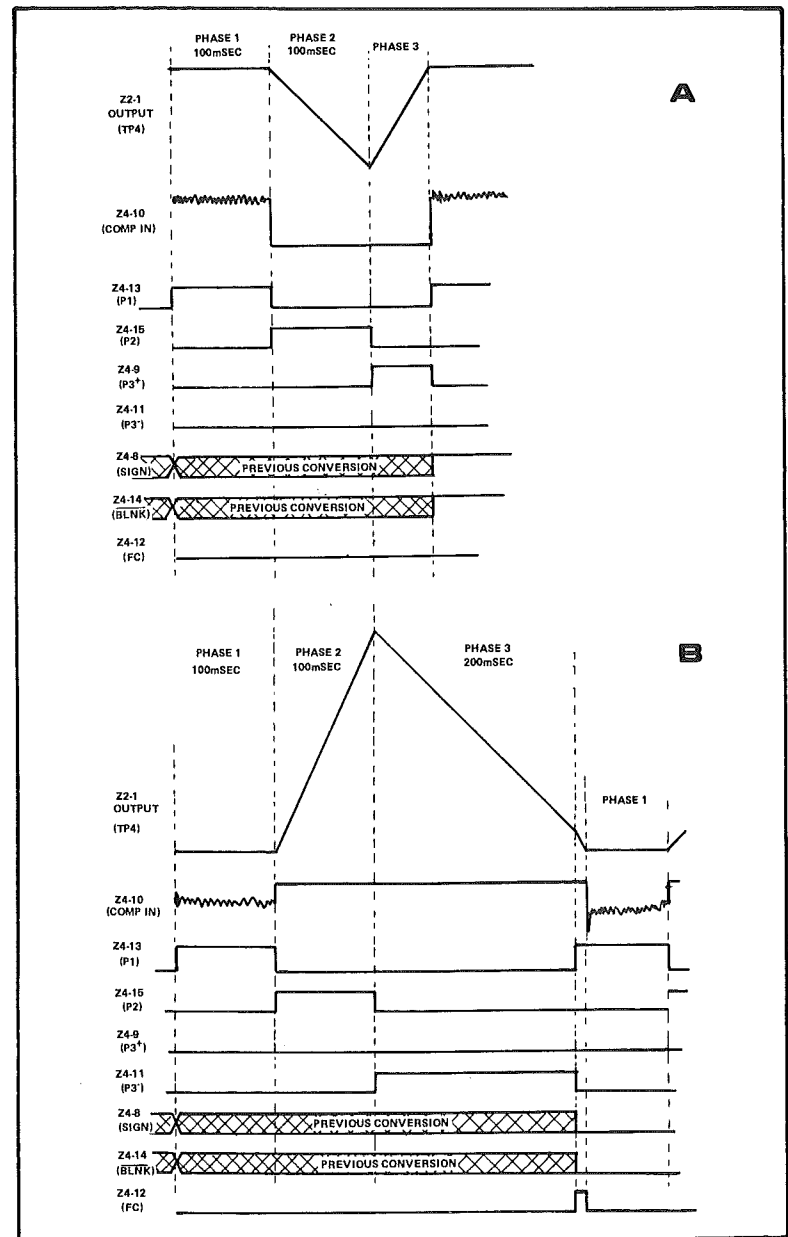

Fig. 3-7. Digital Logic Timing Waveforms
e. Figure 3-7 is a summary of the timing relationships of the waveforms generated in Z4. Conditions for converting an in-range A/D input are shown